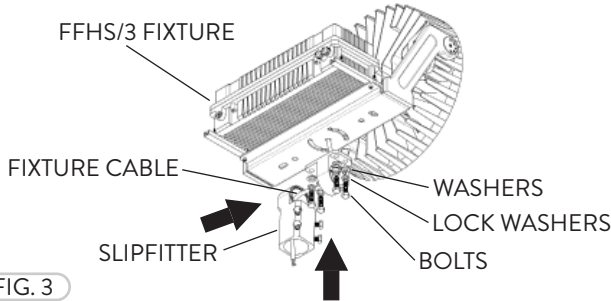

FIG. 3
- 1 The Slipfitter can be mounted easily to the FFHS/3 fixture (Fig. 3). Carefully slide the Fixture Cable through the Slipfitter and fasten the Slipfitter to the FFHS/3 fixture.